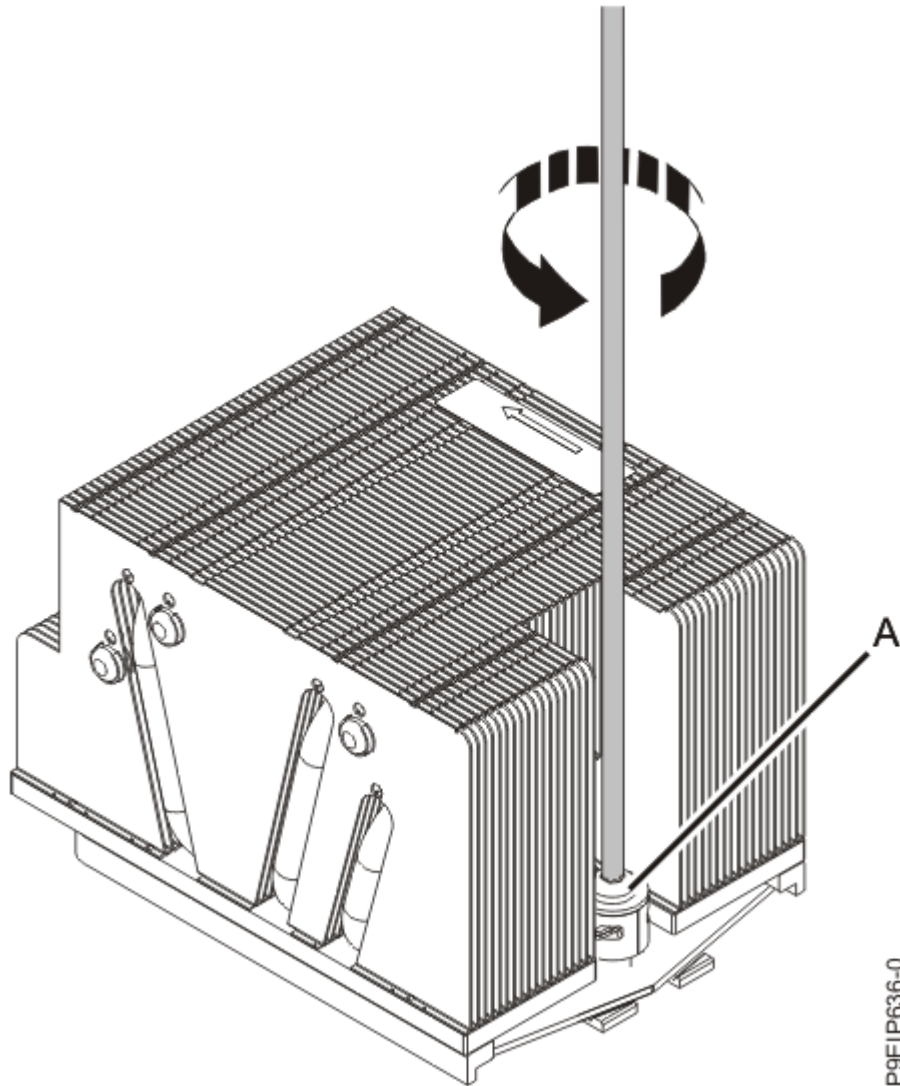

Figure 41. Loosening the load arm screw of the heat sink
4. Loosen the load arm screw (**A**) of the system processor heat sink that you are removing by using a #3 Phillips screw driver as shown in Figure 41 on page 44.